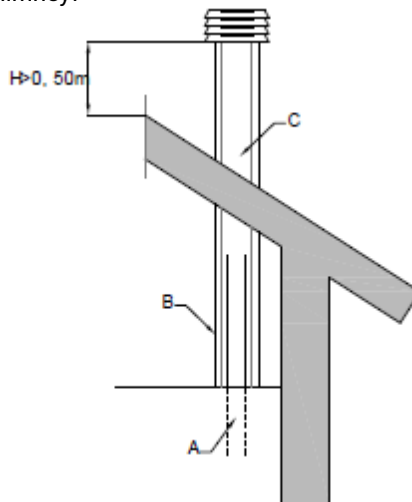

Figure 2.6: Example connection to the chimney
In case the exhaust pipes have larger diameter, a steel pipe (A) must be inserted in the brick or concrete chimney (C), as depicted in Figure 2.6.